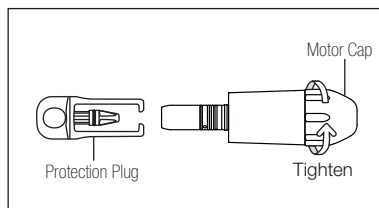

Fig.10
- 4) Screw the Motor Cap to the Motor. Put the Protection Plug to the motor insert. (Fig. 10)